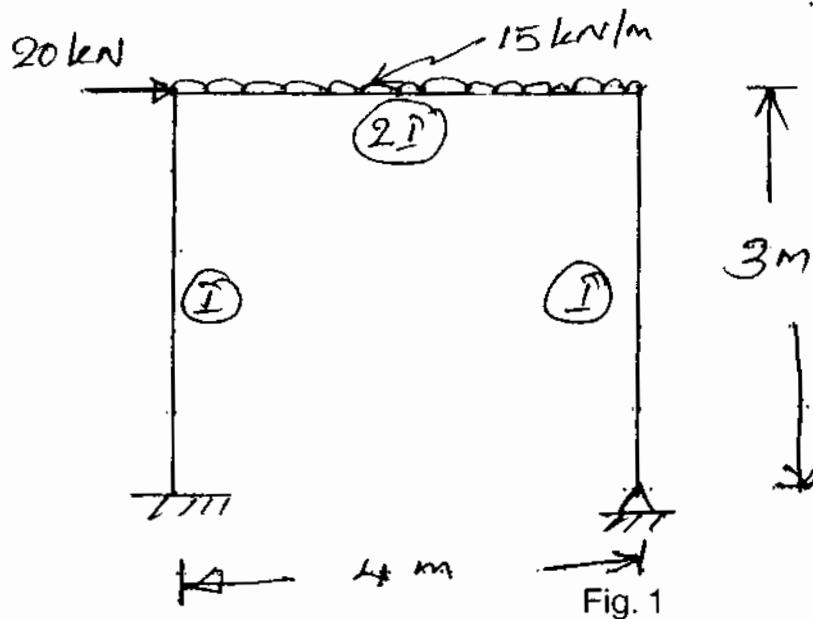

Fig. 1
9. Analyse the frame shown in Fig. 1 by flexibility method and draw the BMD. 20